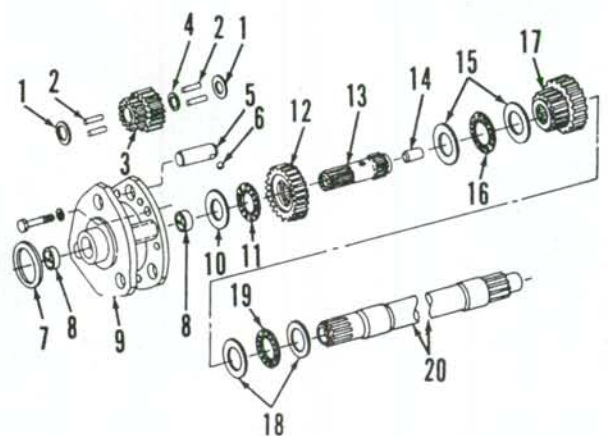

**Fig. 97—Exploded view of two-speed planetary unit.**
**106. REMOVE AND REINSTALL.** To remove the planetary unit, tractor must be split between engine and clutch housing as outlined in paragraph 101. Remove clutch operating piston housing as outlined in paragraph 104. Remove hex bushing (14—Fig. 97) from planetary unit if it did not come out with the clutch shaft (20). Note position of shifter arm shaft for correct reassembly, then drive the spring pin upward until shaft can be separated from the shift arm.
**107. OVERHAUL.** To disassemble planetary unit, remove the six cap screws securing planetary pinion carrier to clutch drum and lift off carrier assembly. The planet gears (3—Fig. 97) can be removed by pushing planet shafts (5) out of the carrier. Be sure to catch retainer balls (6) as shafts are removed. The low range sun gear (12) can be removed after planet gears are out of carrier. On Model 4455, remove thrust washers (10 and 15) and thrust bearings (11 and 16).